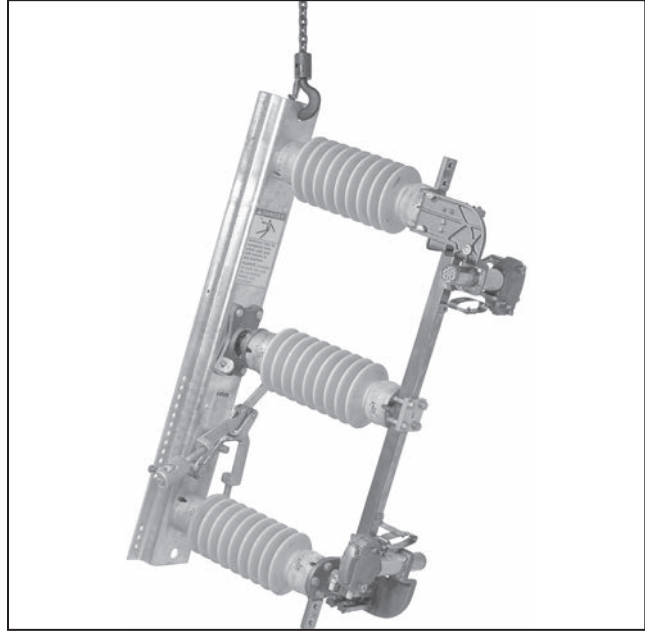

Figure 9. Hoist the switch pole-units into position.
STEP 6. Hoist the switch pole-units and bolt them into position, as shown on the erection drawing. See Figure 9.